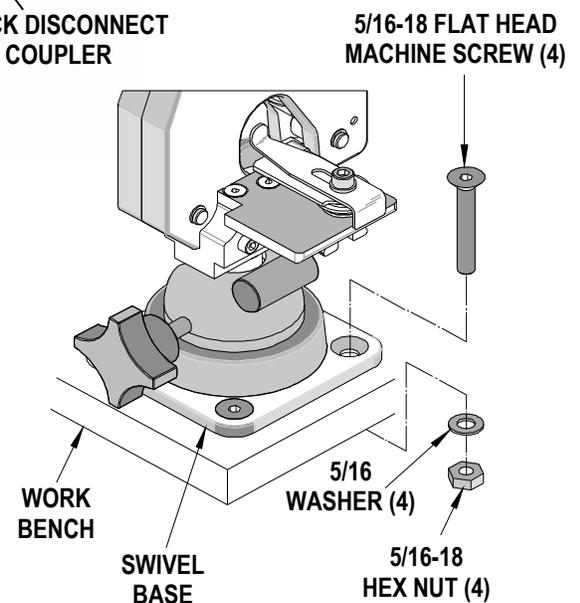

Figure 3-2
4. Before attempting to crimp any terminals, be sure the Swivel Base is securely fastened to a clean, sturdy work bench or table in a well-lighted area. Fasten the base with four 5/16-18 flat head machine screws, nuts and washers of sufficient length for the table top. (Not supplied). See Figure 3-2.